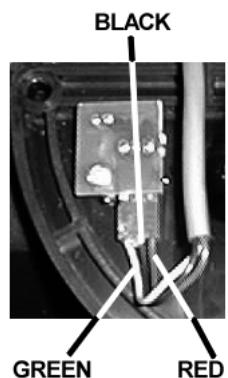

FIG. 1
1. Remove (4) screws from wave guide using a 3/32" Allen Wrench
3. Disconnect the LED harness (**FIG. 1**)